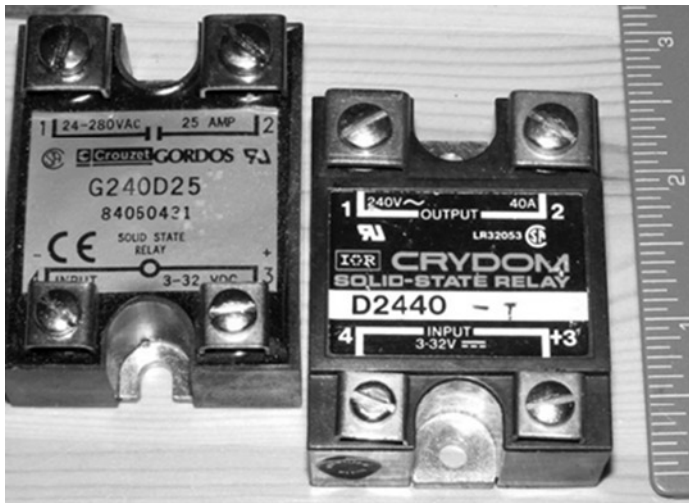
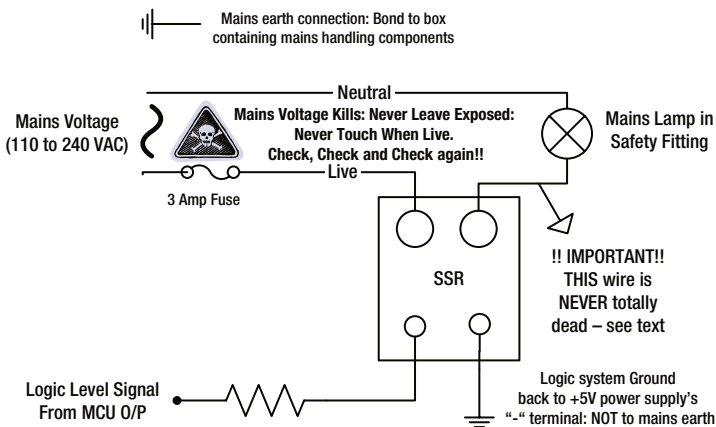

Figure 4-26. Two examples of a solid state relay
Figure 4-27. Basic use of an SSR
Figure 4-26 contains a picture showing two examples of the larger kinds of SSR. This style of package is, due to its overall shape, known as the hockey-puck style—but there are other much smaller packagings for lower amounts of power switching. The left-hand device shown here is rated to switch 25 amps of mains current and the right-hand device is rated for 40 amps.³ So, even if you wanted to switch power on and off to a 2 or 3 kilowatt water heater, you could find an SSR that was more than capable of handling it (with heatsinking and the all-important safety considerations taken into account—see Figure 4-27). These hockey-puck SSRs are normally bolted to a metal rail or chassis which helps with heatsinking. The metal case is isolated from all the terminals and so can be earthed via the mounting rail or the containing metal box. SSRs in this format sometimes come with a clip-over plastic hoods that help keep their potentially deadly mains terminals inaccessible. However, these, for some reason, are sometimes sold separately, so make sure if you’re buying SSRs you get the hoods one way or another.
Figure 4-27 is a diagram of how an SSR is used: in this case we are switching mains power on and off to a mains lamp, under control of an MCU. On the control side, the MCU sends a logic level signal into the + terminal and the other terminal goes to ground. You may or may not need the resistor: SSRs designed to be used with logic level control systems will not require an external resistor, but other types of SSR might require a 270R resistor to limit the current pulled from the MCU. Consult the data sheet for your particular SSR.
■ **Caution** As Figure 4-27 makes very clear, when mains electricians are involved you cannot be too careful. Make sure you use a fuse in the circuit in case of mishaps or malfunctions, make sure that all of your mains connections are covered up and well insulated so that you, other people, or family pets cannot accidentally touch them. Preferably enclose all the mains handling side of your project into an earthed metal box. **Always** design in a mechanical, insulated, isolation point at which you can totally disconnect your project from the mains: This may be a double pole mains isolation switch, a removable cartridge fuse, or a plug you can pull out from a mains outlet socket.